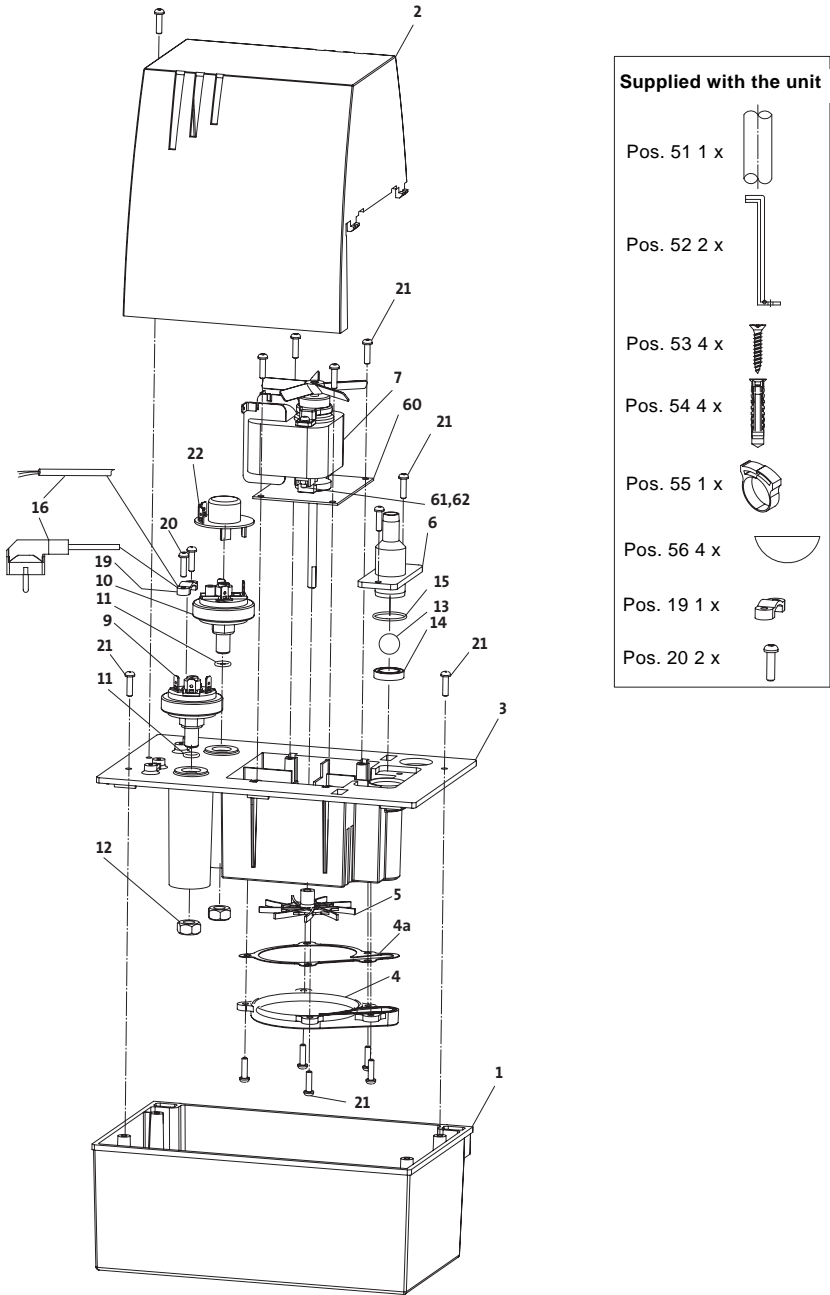

Fig. 8 Exploded view
1. Remove the screw holding the motor cover in place (pos. 2) and lift off the cover, see fig. 8.
2. Remove all cable connections between pressure switch 1 (pos. 9) and pressure switch 2 (pos. 10), see fig. 8.
3. Remove the buzzer (pos. 22).
7. Remove the screws for the collecting tank cover (pos. 3), see fig. 8, and lift off the cover. Remove the screws in the pump housing (pos. 4) and remove the pump housing.
10. Also remove deposits, dirt, algae and incrustations from the radial seal (pos. 14) with a damp cloth.